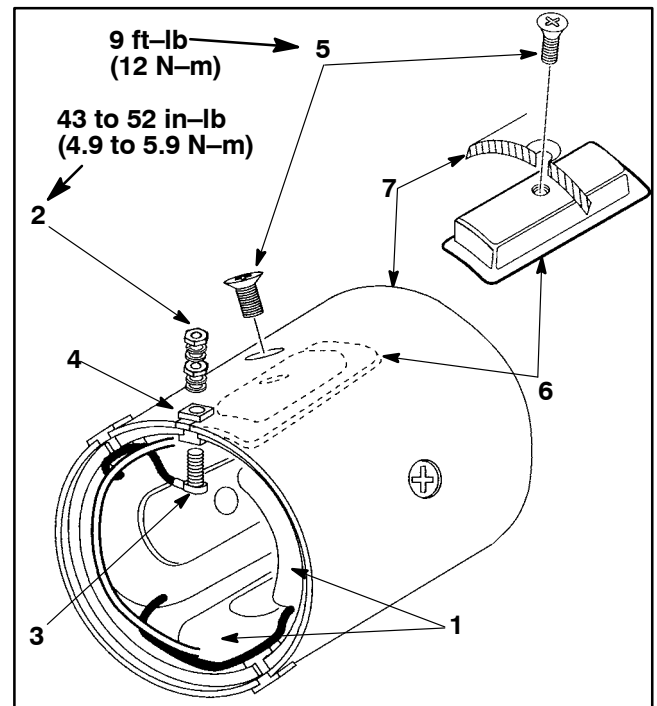

Figure 27
9. Inspect field coils (Fig. 27).
10. To remove field coils (Fig. 27):
- A. Position field coil into yoke. Make sure both insulators that look similar go into the slots marked F1 and F2. The different looking insulator goes into the slot marked DF. Seat insulators into slots (Fig. 27).
- B. Install terminals through wire connectors and insulators. Secure flat washer, lock washer, and nut onto each terminal. Torque nuts from 43 to 52 in-lb (4.9 to 5.9 N-m) (Fig. 27).
- C. Position all four pole pieces into the yoke. Secure pole pieces with set screws. Torque screws to 9 ft-lb (12 N-m) (Fig. 27).